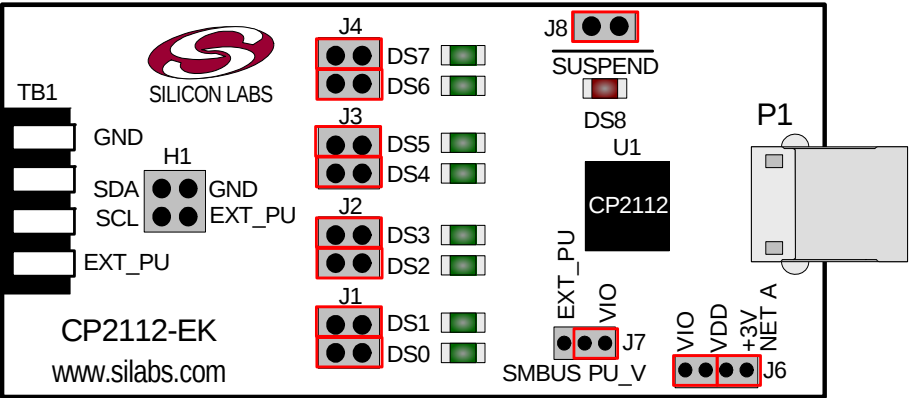
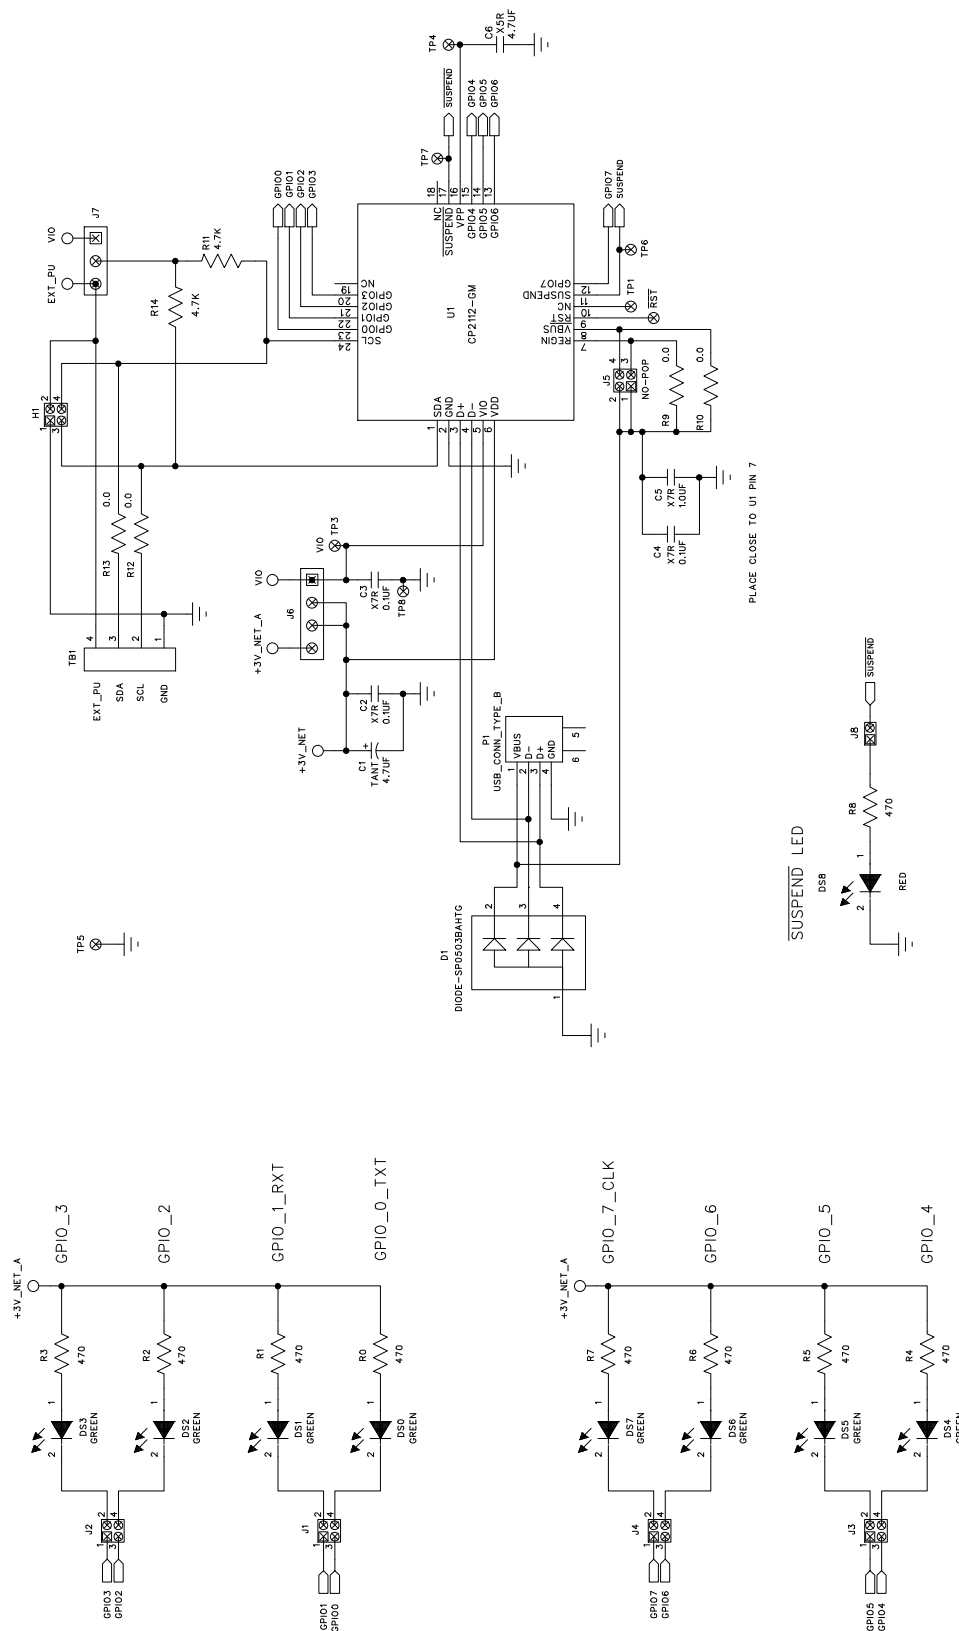

Figure 9. CP2112 Evaluation Board with Default Shorting Blocks Installed
Figure 10. CP2112 Evaluation Board Schematic
The CP2112 Evaluation Kit includes an evaluation board with a CP2112 device pre-installed for evaluation and preliminary software development. Numerous input/output (I/O) connections are provided to facilitate prototyping using the evaluation board. Refer to Figure 9 for the locations of the various I/O connectors. Refer to Figure 10, “CP2112 Evaluation Board Schematic” for information regarding the SMBus pull-up resistors that are located on the target board.
- Updated Figure 10 on page 12.